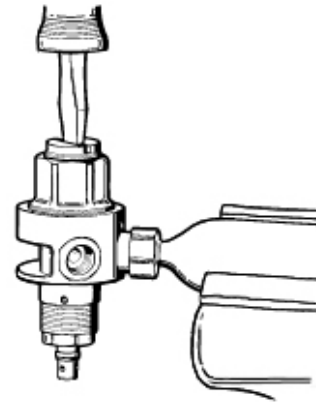

Figure 7 - Adjustment screw removal
- Secure the vise mounting tool in a vise, so that the low pressure side of the first stage faces straight up (see Figure 7).